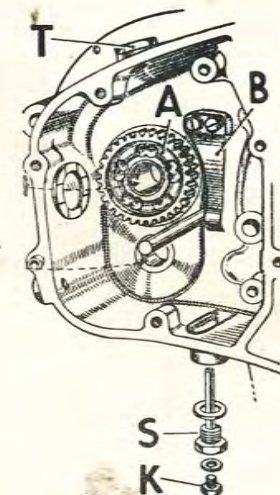

Fig. 15. The Gearbox Drain Plug.
Apart from topping up at regular intervals, very little maintenance should normally be required. The gearbox drain plug (S) incorporates a level plug (K) and, to top up, remove the filler plug (T) Fig. 15, take out the level plug and replenish with the correct grade of oil until it starts to flow out through the level plug hole.